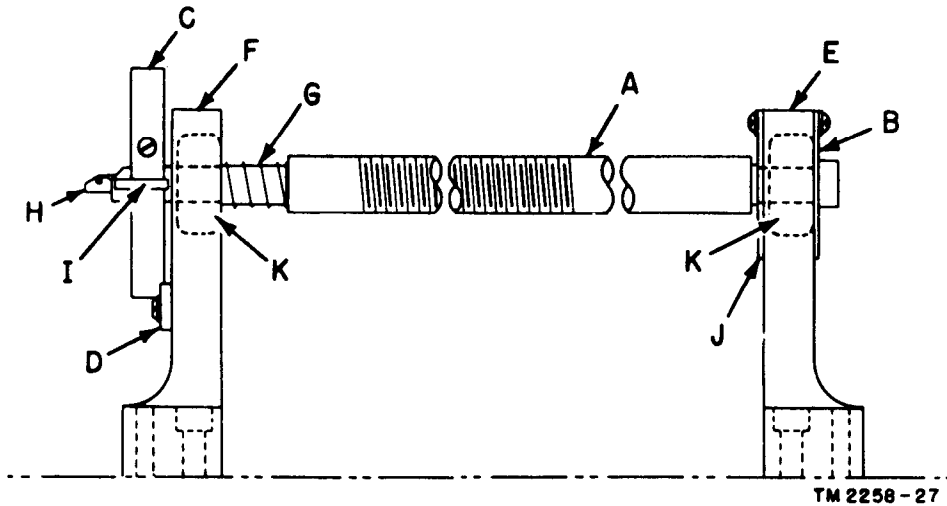

Figure 119. Lead screw, dog, and bearings.
*e. Tension Adjustment.* If phasing troubles occur in Facsimile Transceivers TT-1B/TXC-1 through TT-1F/TXC-1, tighten the drum-tension adjusting screw one-half turn. This is the upper screw on the left-hand lead-screw bearing block (fig. 119).
(fig. 119)
*a. Cleaning.* Clean the lead screw thoroughly with solvent (SD). Be careful not to scratch the threaded portion. After cleaning, inspect for scratches and nicks, using a magnifying glass. If nicks appear in the threaded portion, the threads sometimes may be *chased* by a skilled machinist working with a hand tool. Any nicks or dents in the other portion of the lead screw should be emoothed out with a fine oil stone. Examination of the lead screw should include an inspection of the bearing (K, fig. 119). Replace the bearings that cause the lead screw to bind.
*d. Lead Screw, Dog, and Bearing Parts Description* (fig. 119).